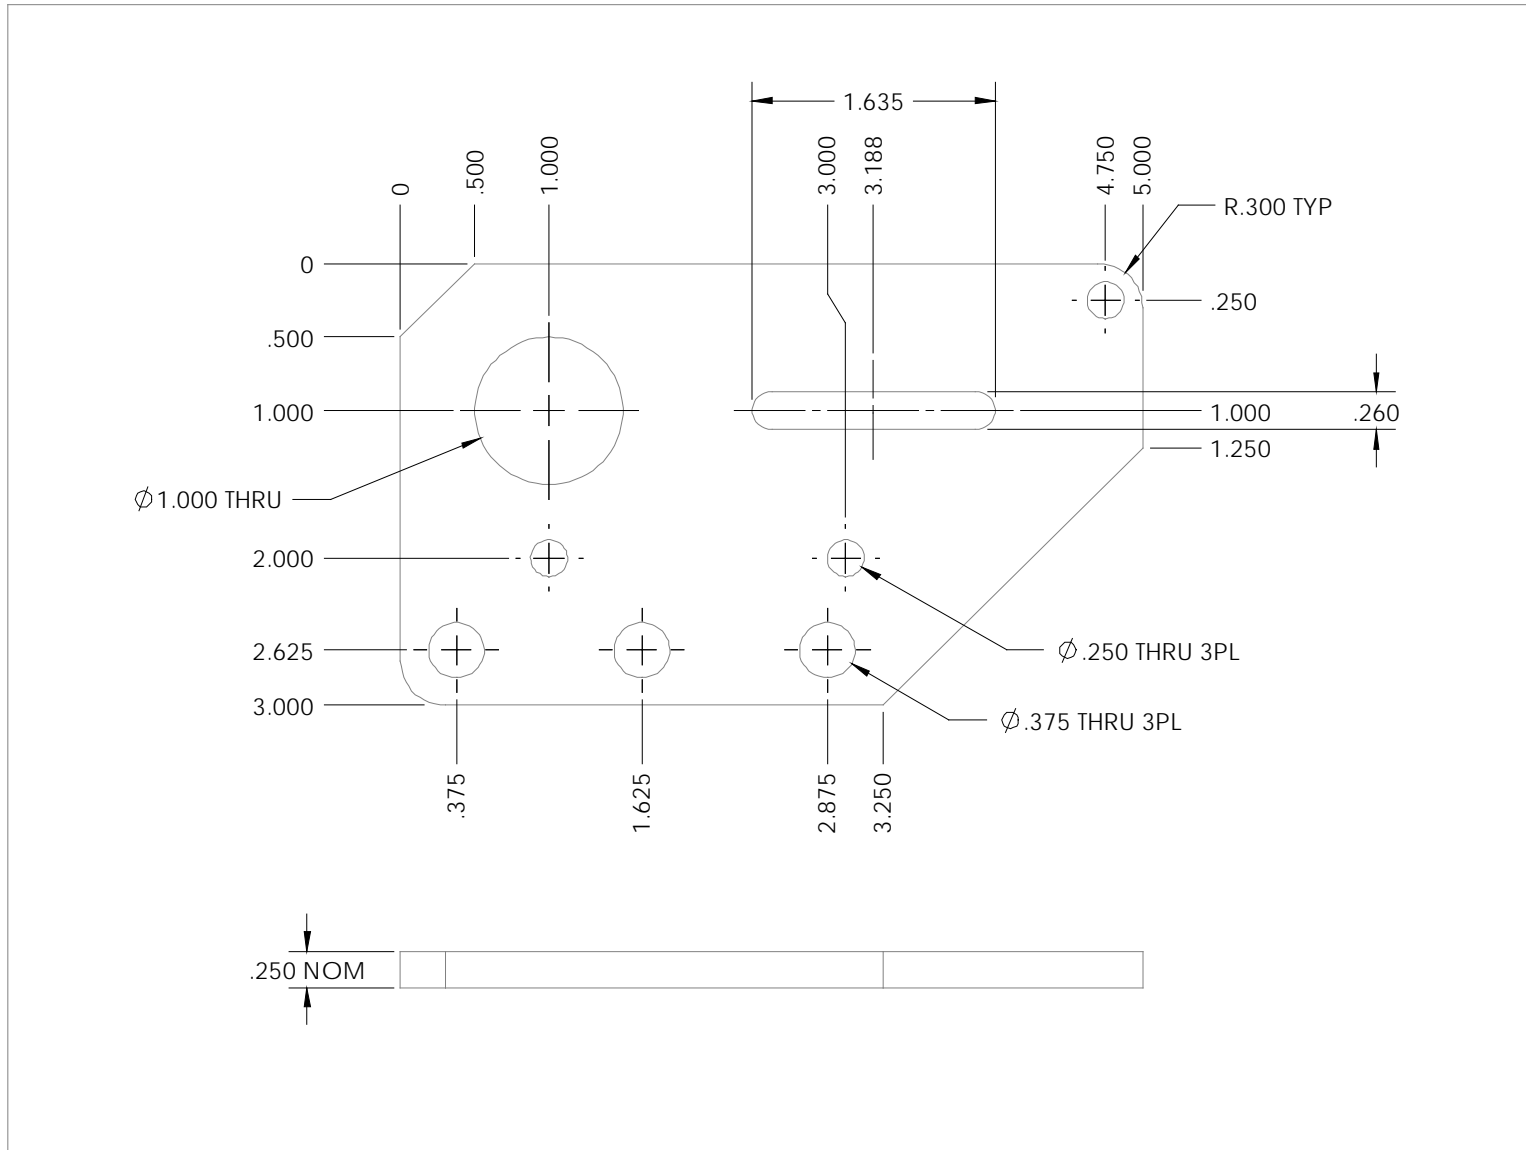

Figure 10.7 – Easy to read drawing using ordinate dimensions
- Dimension lines are difficult to follow. Ordinate dimensions should be on the side of the part closest to the feature they are defining (shown in Figure 10.7).